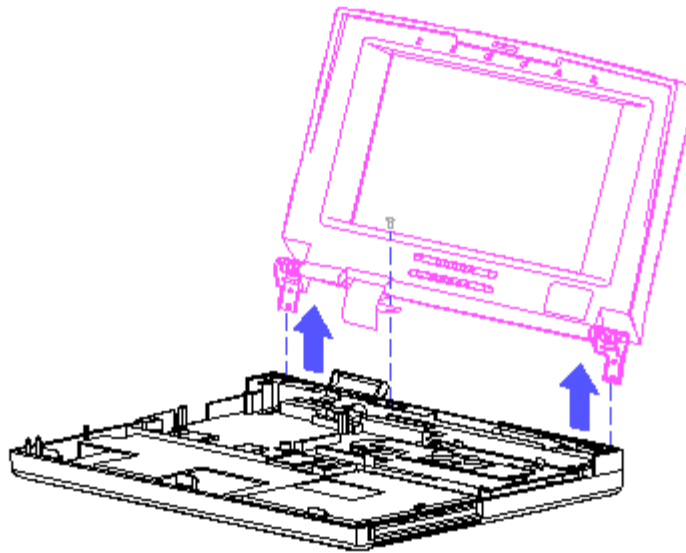

Figure 2-15. Lifting the Display Panel Assembly Out of the Computer
6. Lift the display out of the computer (Figure 2-15).